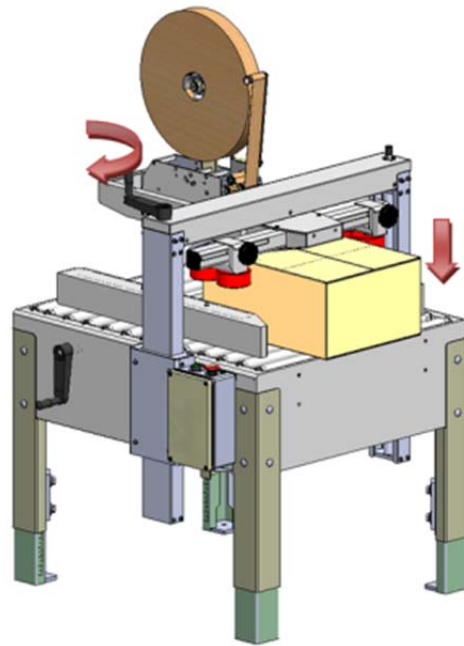

Figure-32
- b. Turn Case Height Handle Clockwise As Shown In **Figure-32** Until Upper Head Contacts Top Of Case. Upper Head Should Contact Case Firmly Enough To Keep Major Flaps Closed But Not Restrict Processing Of Case Or Score The Top Of Case.